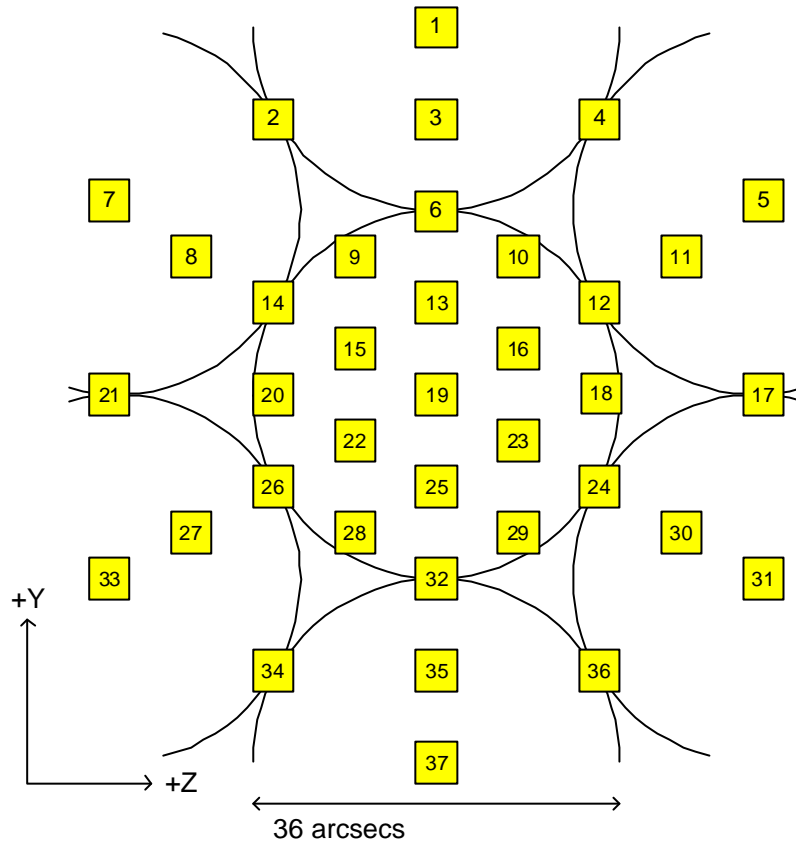

Figure 3: Beam Scan Raster Pattern
5. Move the telescope simulator 4.5 arcseconds in the -Y direction and 9.0 arcseconds in the -Z direction (position 2 in figure 3), wait for 3 minutes
6. Move to the remaining pixels in turn as indicated in figure 3 (see table 1), waiting 3 minutes at each.